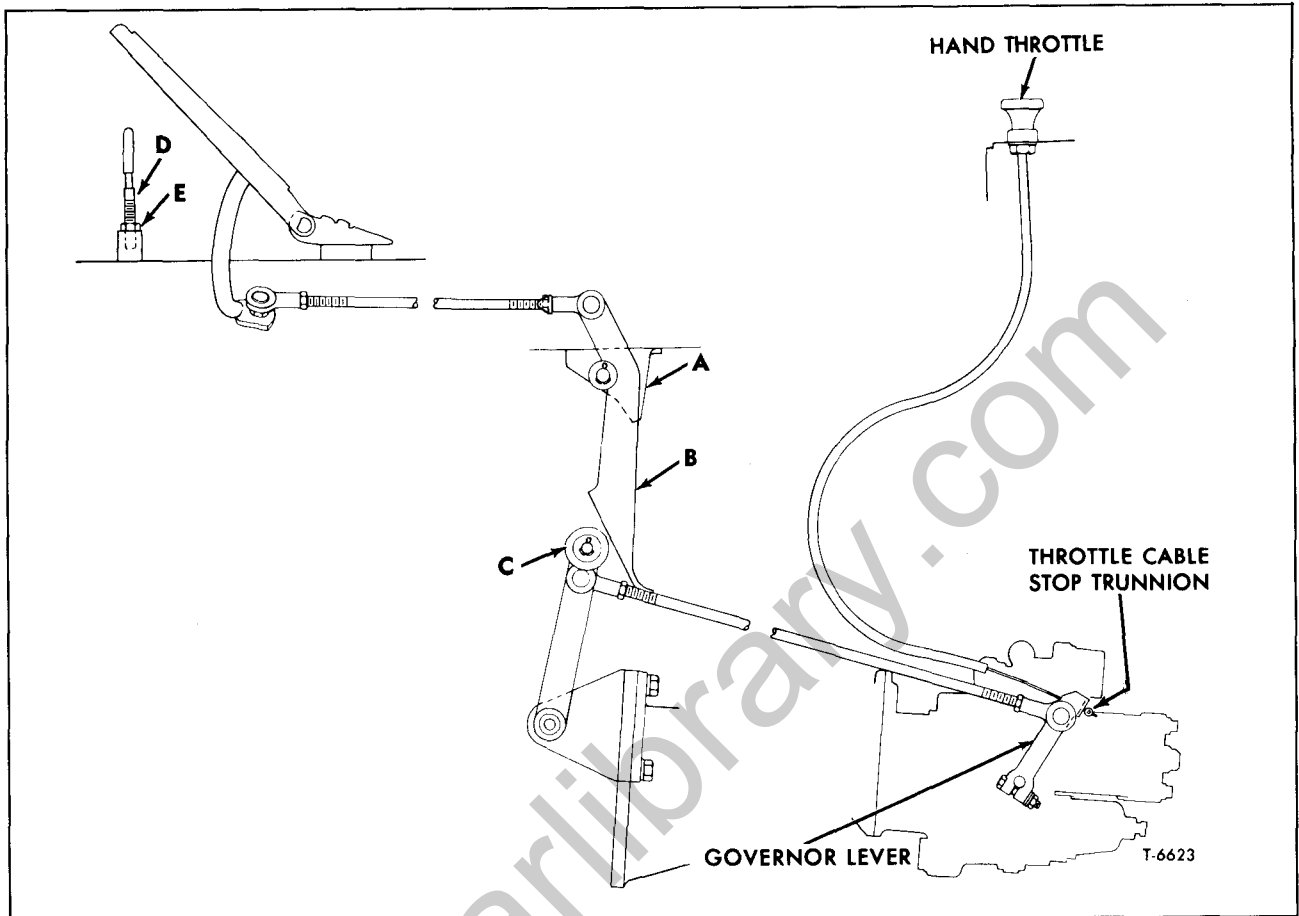

Figure 2—Tilt Cab Accelerator and Throttle Linkage
(Refer to Figure 2)
2. Slide bracket "A" (loosen attaching bolts) until 1/8" clearance exists between lever "B" and roller "C" (fig. 2). Torque the attaching bolts to 6 to 8 foot-pounds.
and adjust stop bolt "D" to contact accelerator pedal (fig. 2). Tighten jam nut "E" securely.